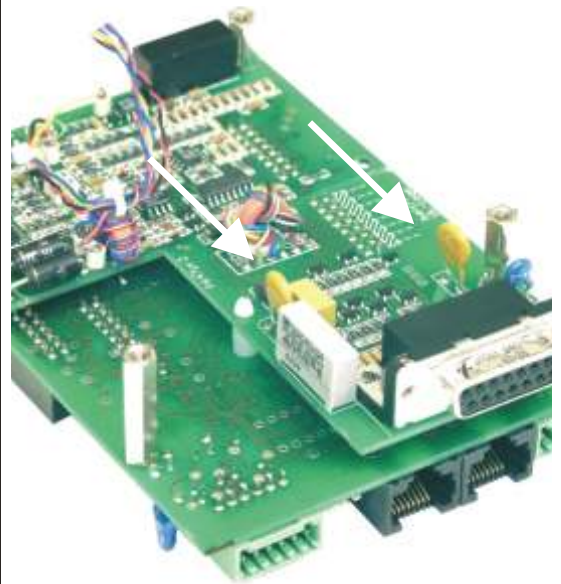

fig. 4 - 14
- Check fuse F27\_2 in series with  $\emptyset$  (pin 8 of CON E) (see fig. 4 - 14). To check the fuse measure the voltage between  $\emptyset$  and the minus output, a high voltage means too much current flowing through the fuse. F27\_2 = 650 mA, self resetting.